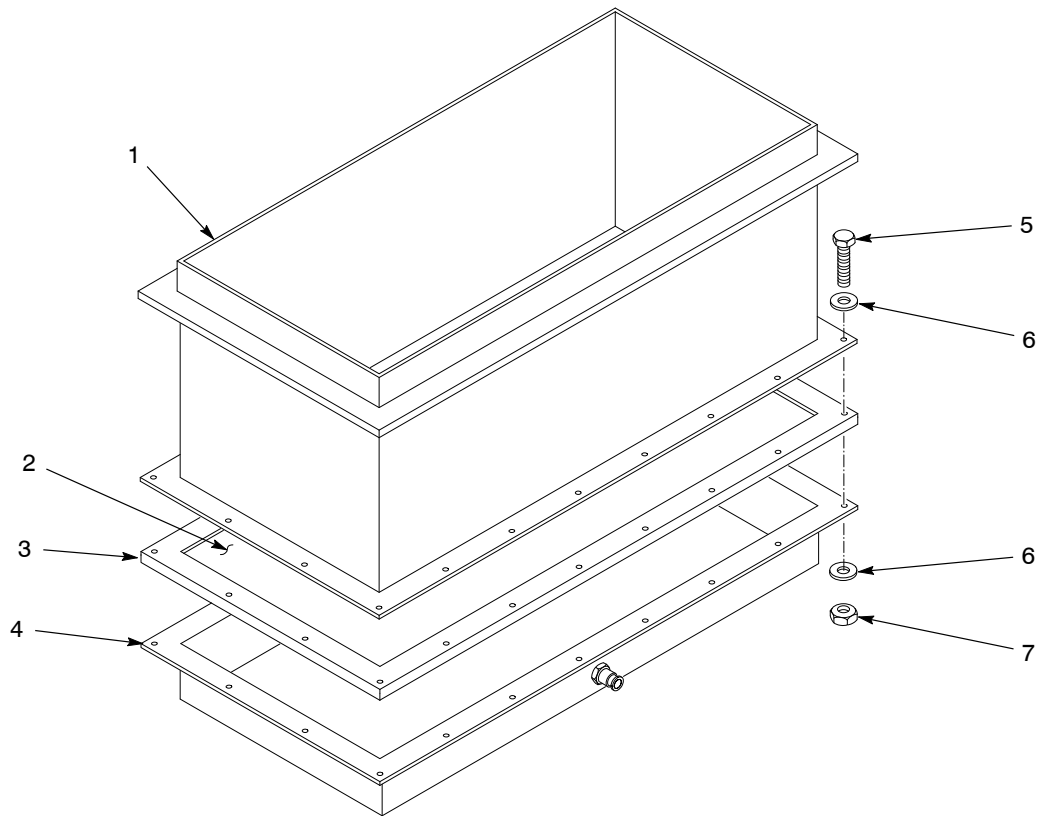

Figure 8-13 75-lb Feed Hopper Fluidizing Plate Replacement
2. See Figure 8-13. Remove the screws (5), flat washers (6), and nuts (7) securing the body (1) to the plenum (4). Lift the body off the plenum.
3. Remove and discard the old fluidizing plate (2) and U-gasket (3).